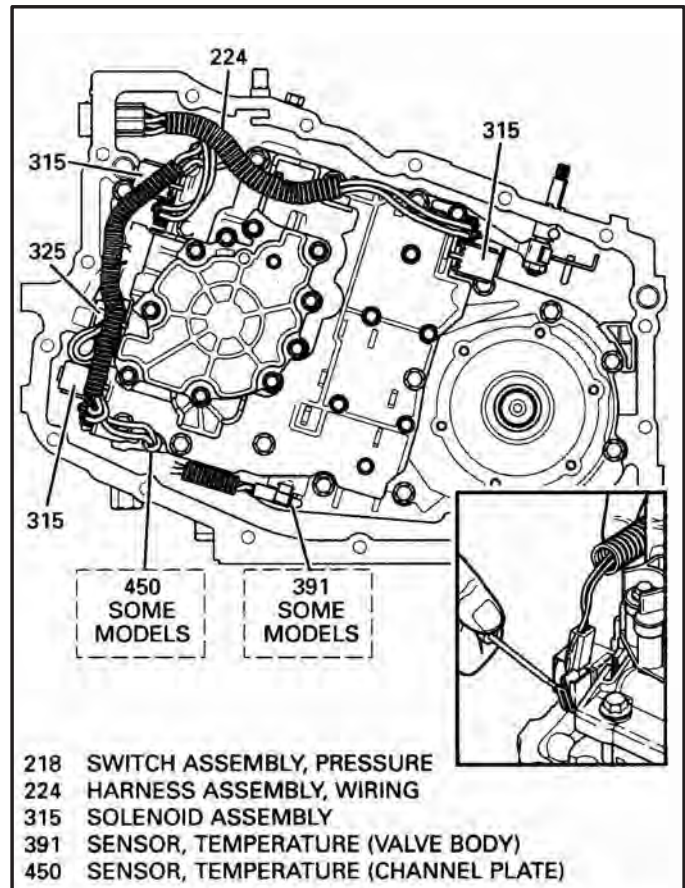

Figure 47
15. Remove the internal wiring harness using a small screwdriver to remove connectors from solenoids, as shown in Figure 47.